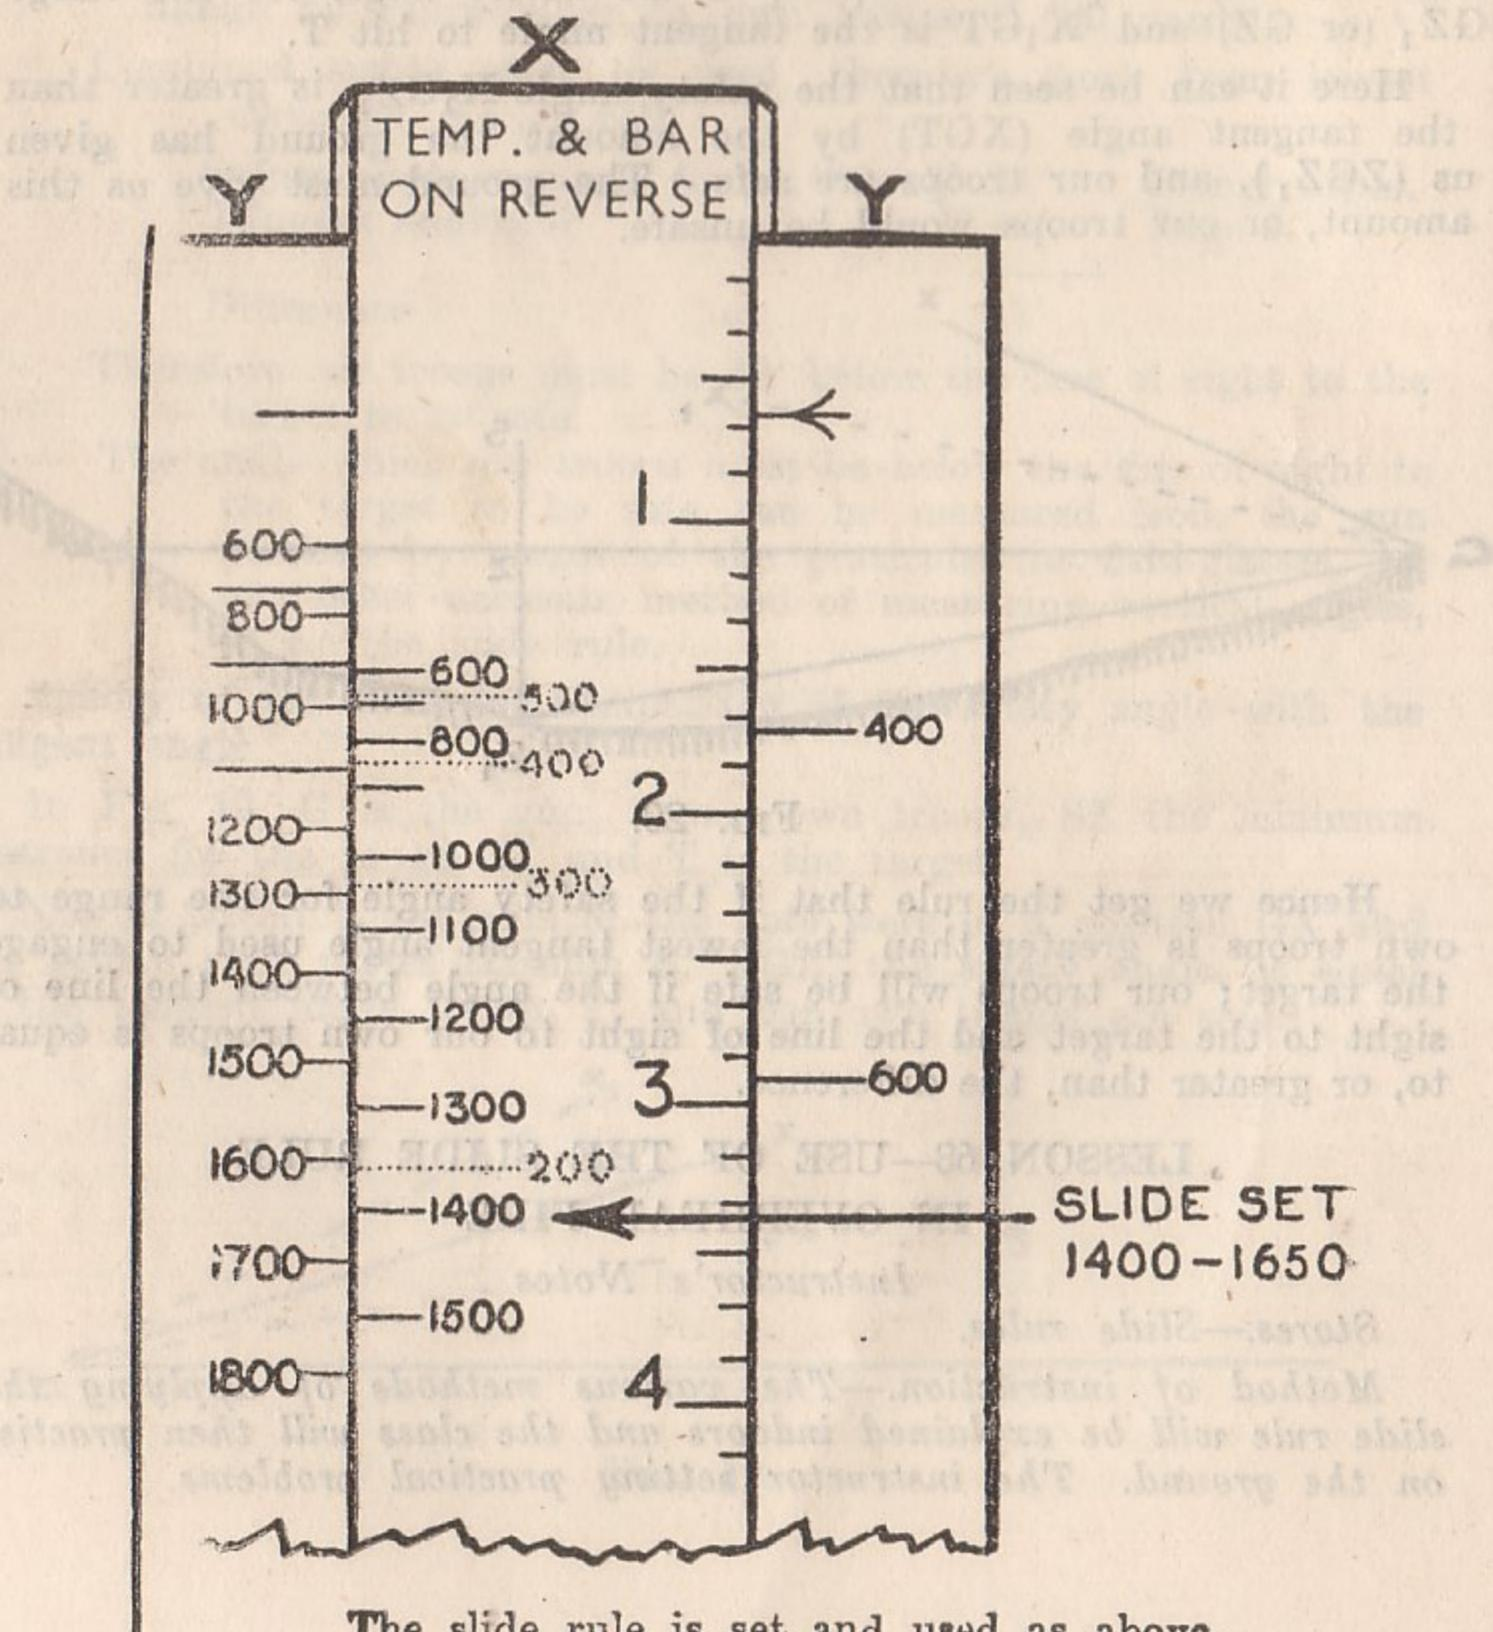
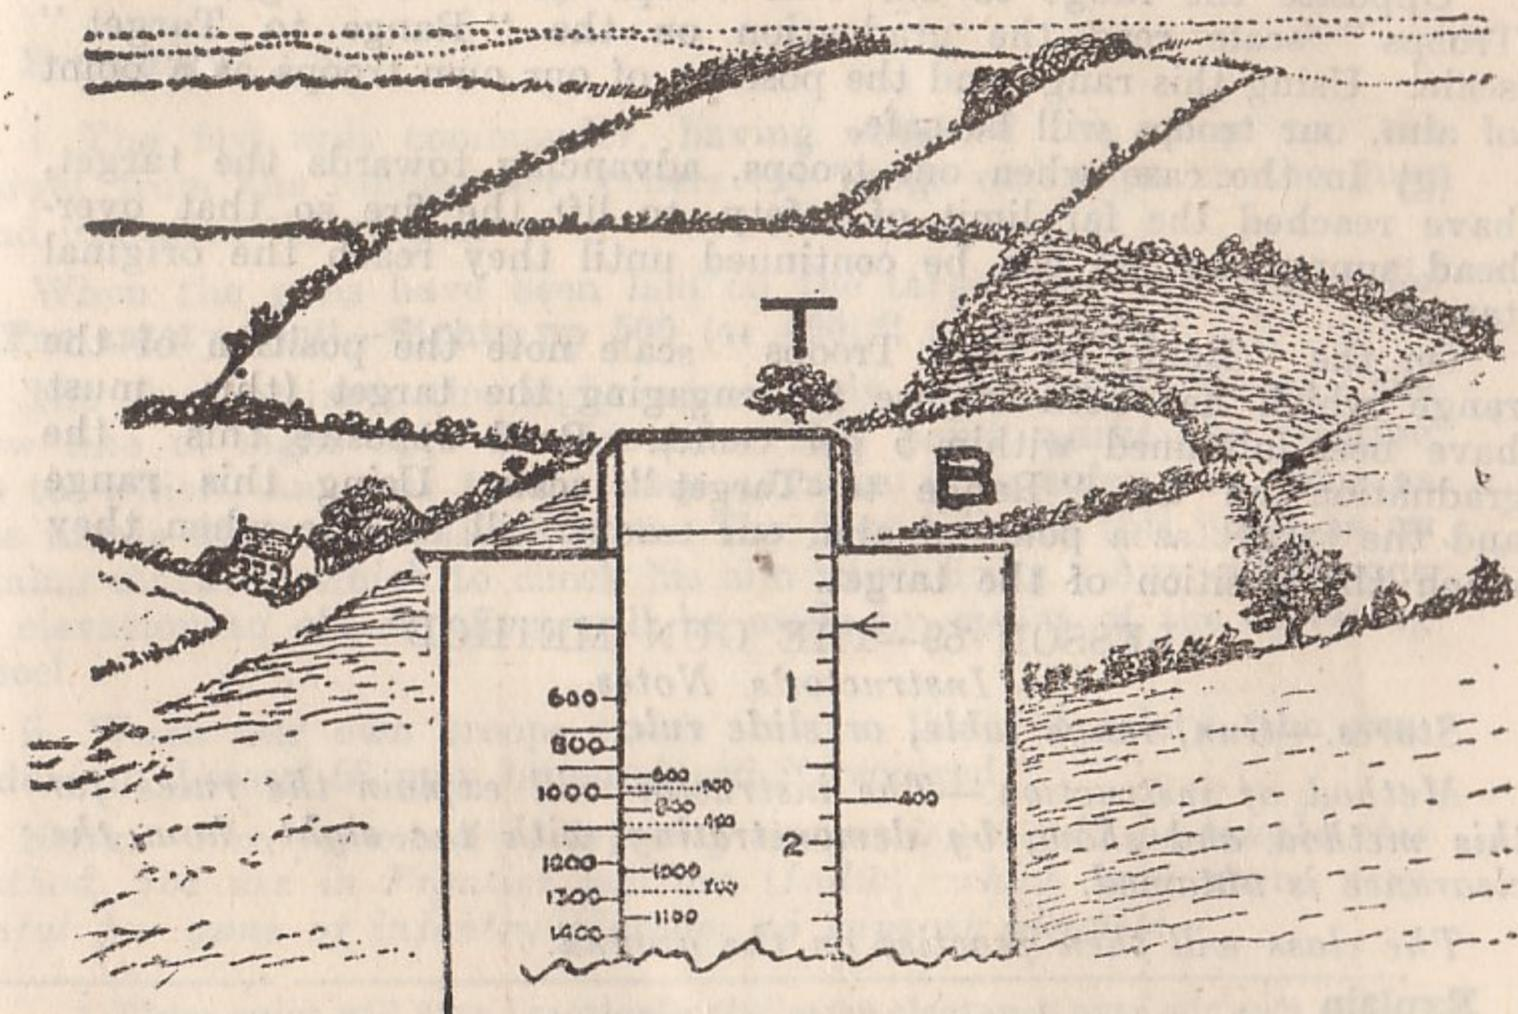

FIG. 21.
FIG. 22.
Hold the rule vertically at the full length of the string, bringing the shoulders at the top of the rule Y, in Fig. 21, along the line of our own troops nearest the target.
The fire controller picks up a point (B) short of the target T (Fig. 22) up to which he estimates our troops could advance with safety. He orders his range-taker to take the range to this point and obtains the range to the target. He sets the slide rule as in para. 1, above, taking the range to B as the range to our own troops. If the projection XY (Fig. 21) does not fit in between the lines of sight to B and T, our fire must cease at some point nearer the gun than B. If it fits in with some amount to spare, then fire can be continued until our troops reach some point closer to T.